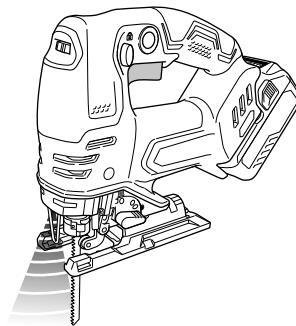

Fig. 23
3. LED light warning signals (Fig. 23)